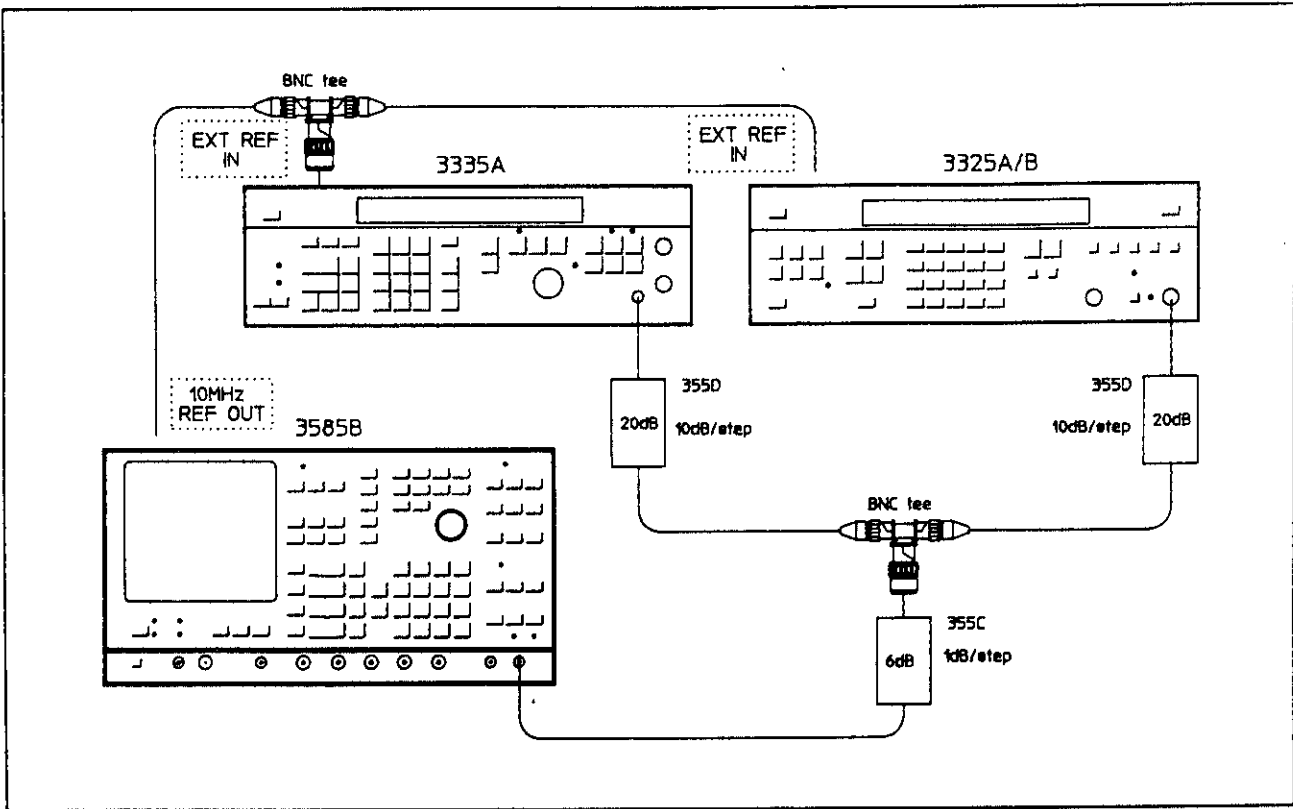

Figure 4-5.
- a. Connect equipment as shown in Figure 4-5. Set the attenuators connected to the sources to the 20 dB step. Set the attenuator connected to the 3585B to the 6 dB step.